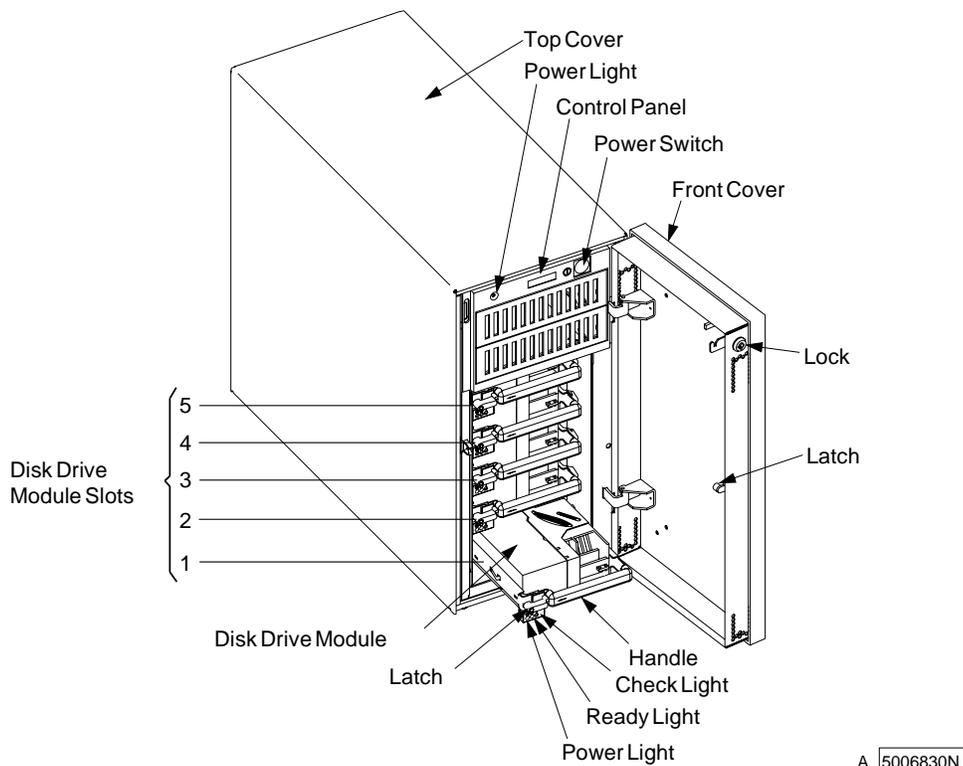

Figure 3-10. Disk Drive Modules in the 7131 Storage Tower
- 1 Open the front cover. See Figure 3-10.